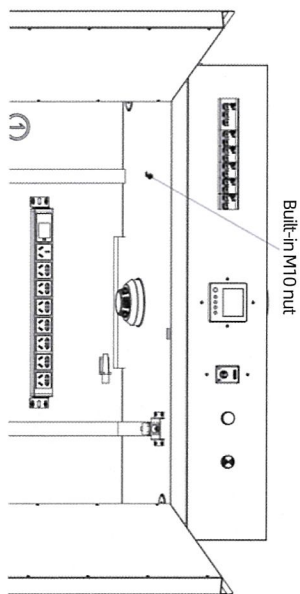

Figure 4
3. Introduction to the installation of suspended automatic fire extinguisher: As shown in Figure 4, an M10 nut is reserved at the top of the cabinet, which can hang a fire extinguisher within 6kg, and users can install the suspended automatic fire extinguisher according to the actual use needs.